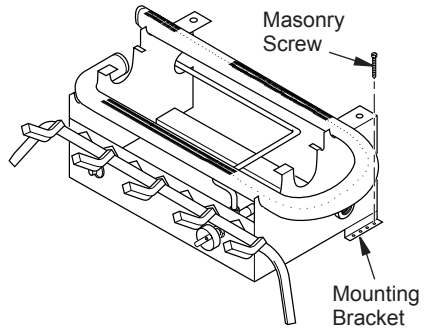

Figure 12 - Attaching Base Assembly to Fireplace Floor - Dual Burner Model
7. Mark screw locations through holes in mounting brackets (see Figure 12 and 13). If installing in a brick-bottom fireplace, mark screw locations in mortar joint of bricks.
10. Attach base assembly to fireplace floor using two masonry screws (in hardware package) (see Figure 12 or 13).